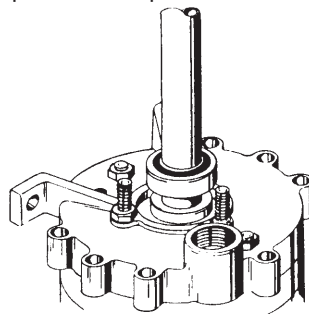

Figure 4-15
25. Solidly supporting the bottom end of the shaft, drive or press a ball bearing (#24B) onto the shaft until it rests firmly against the shoulder on the shaft. (refer to figure 4-15) A sleeve properly sized to contact only the inner bearing race will be helpful for this operation.